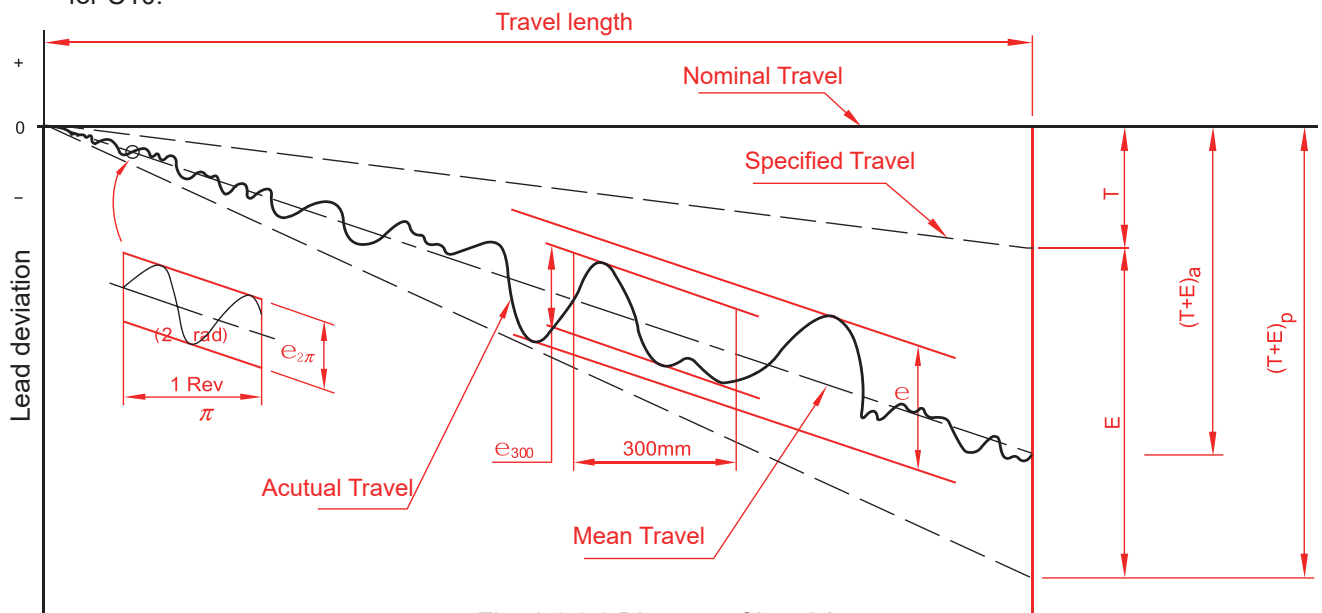

Fig. 4.1.1.1 Diagram of Lead Accuracy
- 1 Lead accuracy of ABBA Ball screws (grade C0~C5) is specified in 4 basic terms (E , e , e_{300} , $e_{2\pi}$). There are defined in Fig.4.1.1.1 Tolerance of deviation ($\pm E$) and variation (e) of accumulated reference travel are shown in Table 4.1.1.1~ 4.1.1.3